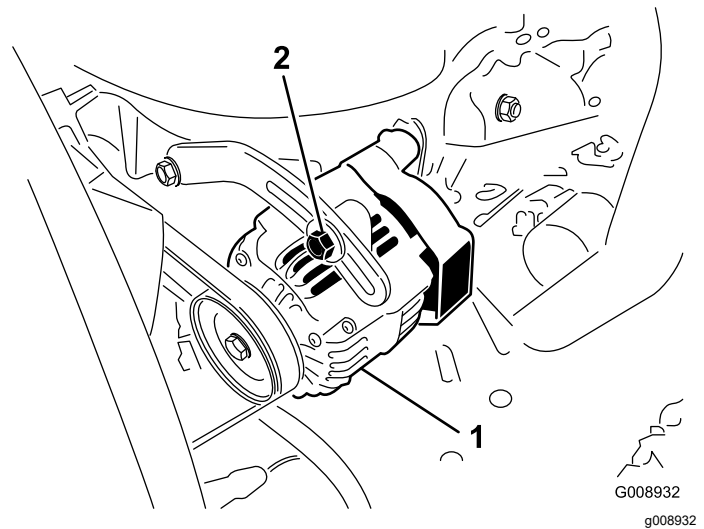

Figure 116
Check the condition and tension of the belts (Figure 116) after every 100 operating hours.
3. If the deflection is not 10 mm (3/8 inch), loosen the alternator mounting bolts (Figure 116).